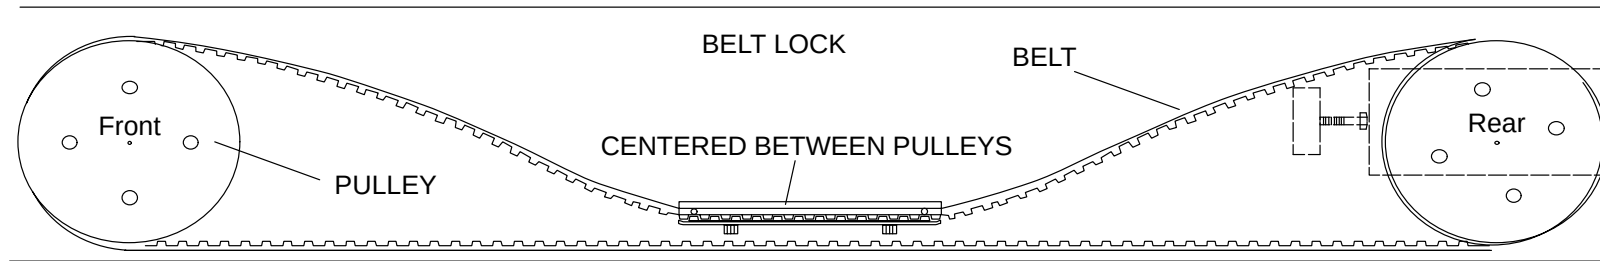

FIGURE 89 HORIZONTAL BELT BEFORE ADJUSTMENT
7. Release the tension on the belt by turning the belt tension adjusting bolt **clockwise** (facing couch horizontal drive motor). Turn the adjusting screw until the belt clamp just touches the bottom belt surface. Refer to Figure 89.